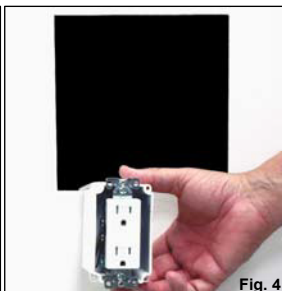

Fig. 4
- Fig. 4** Using the supplied duplex receptacle, connect the hot line (black) wire to the brass colored terminal or screw and the neutral (white) wire to the silver colored terminal or screw. Be sure to connect the grounding (green) or bare grounding wire to the green colored terminal screw. For shock protection, this UR, UL recognized component receptacle must be properly grounded. Caution – use copper wire only with this receptacle. Once you have wired the receptacle, screw the receptacle into the work box until the receptacle is firmly secured.